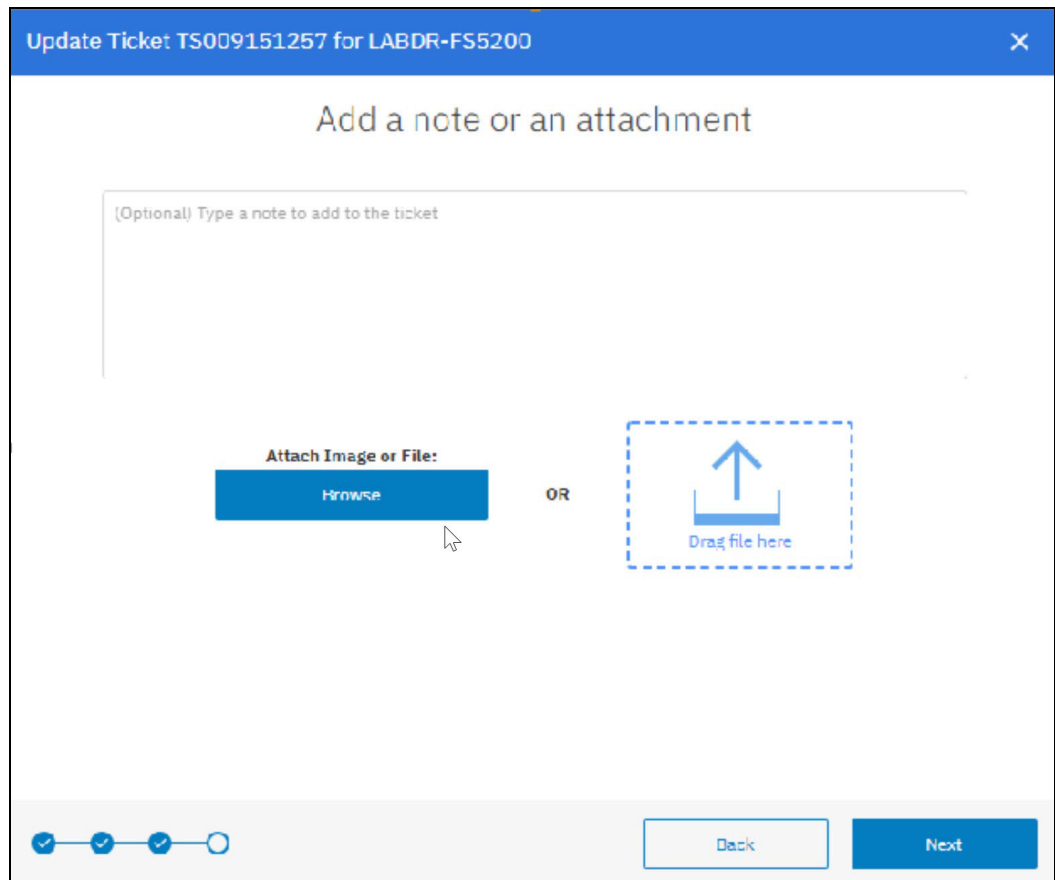

Figure 11-26 Add a note or attachment
4. After clicking **Next**, it is possible to provide more information in a text field, or upload more files, as shown in Figure 11-26.